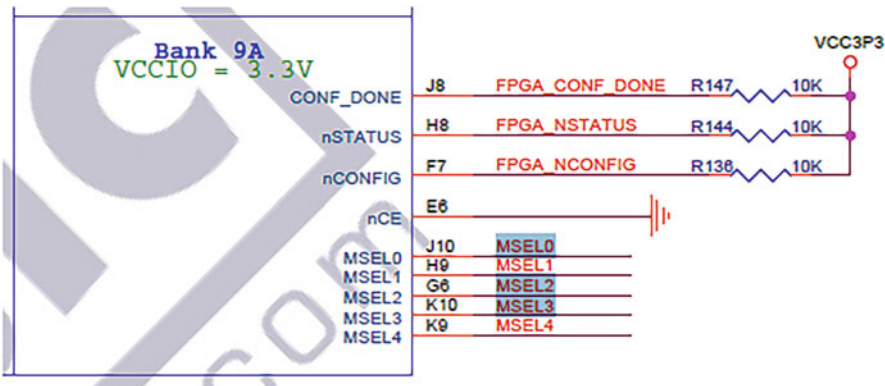

Fig. 4.3: The MSEL pins (MSEL[4:0]) on the FPGA tell the FPGA Control Block what configuration mode to use
3. **HPS**, i.e., configured from the **Hard Processor System** via U-boot when Linux boots. **We will primarily be configuring the FPGA through the HPS** in this book. When the FPGA is configured through the HPS, there are 12 possible configuration modes. Two modes (out of 12 modes) that you will use are listed below. The other modes can be seen in Table 5-1 (page 5-5) in Intel's Cyclone V Hard Processor System Technical Reference Manual [7]. Five pins on the FPGA (see Fig. 4.3), called the *mode select (MSEL)* pins, tell the Control Block inside the FPGA what HPS configuration mode to use.